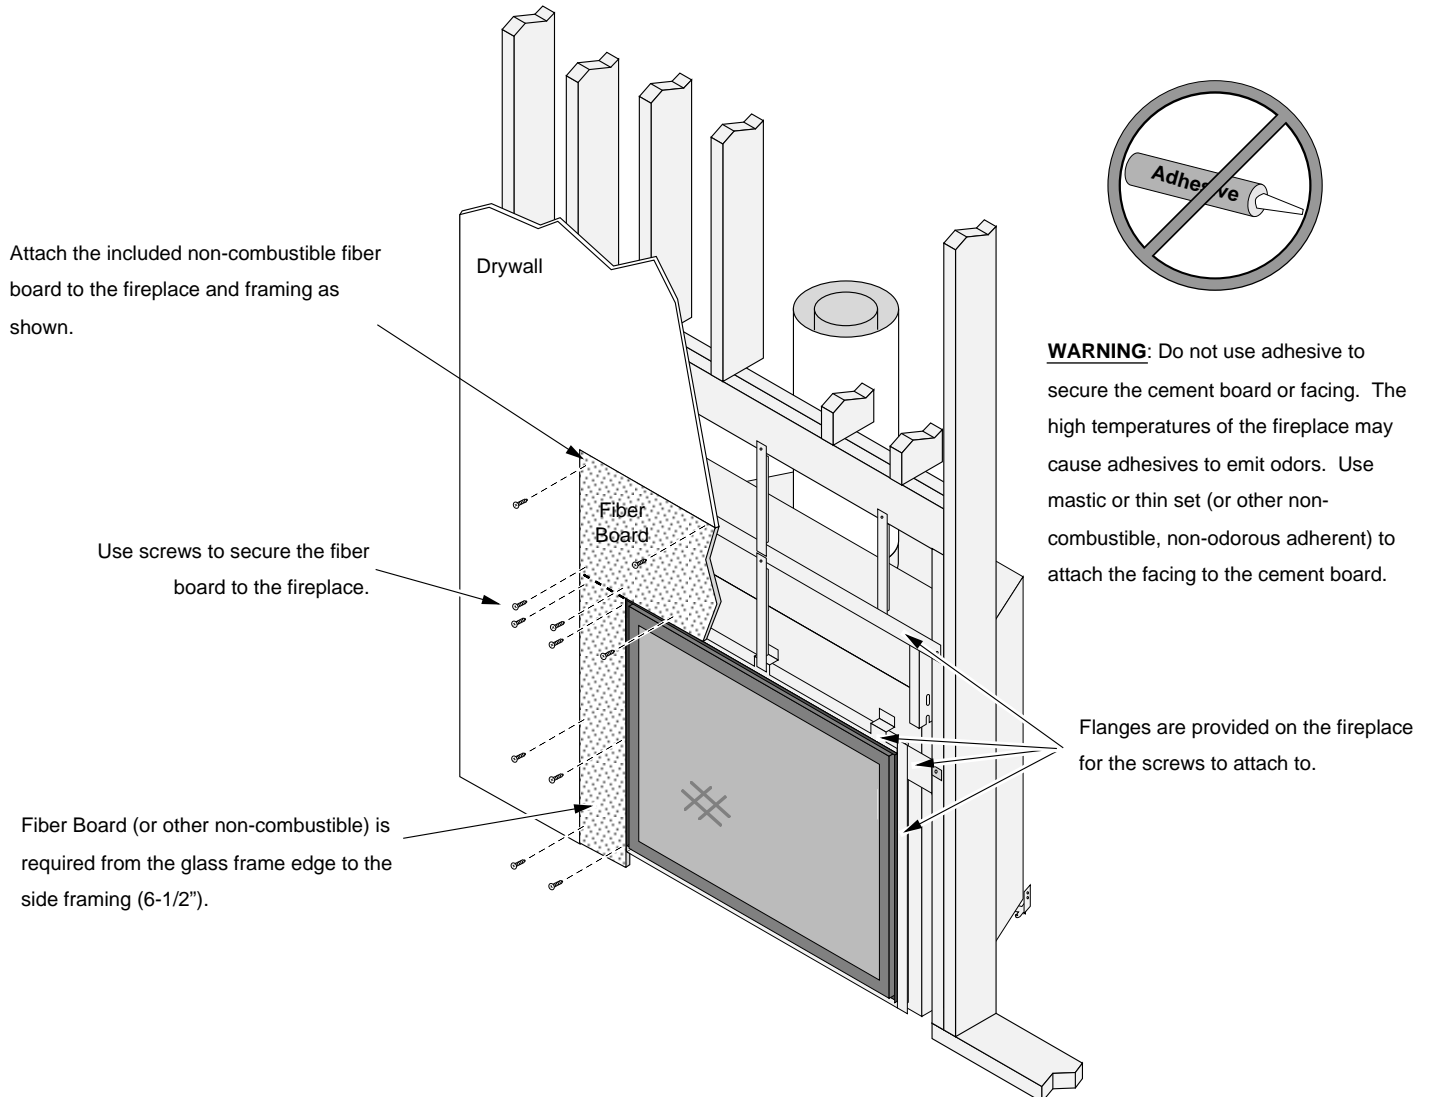

Figure 25
- Attach the included fiber board (or other non-combustible) to the fireplace and framing (see Figure 25 below). This non-combustible facing must extend from the base of the fireplace to the header and to the framing members on both sides.